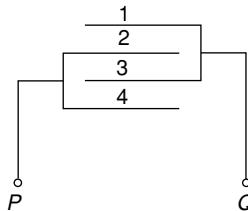

Fig. 1.55
26. If the capacitance between two successive plates is 0.5C (Fig. 1.55), find the capacitance of the equivalent system between points P and Q.